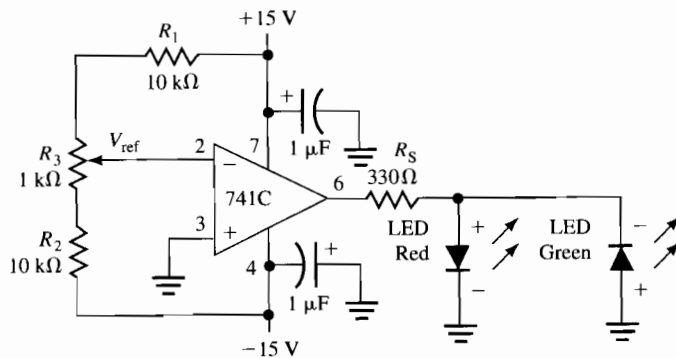

Figure 46–2
- In this step, you will test the effects of the comparator on a sine wave input and add an integrating circuit to the output of the comparator. Connect the circuit shown in Figure 46–3 and add a sine wave generator to the comparator as illustrated. Set the output for a 1.0 V_{pp} at 1 kHz with no dc offset. Observe the waveforms from the comparator (point A) and from the integrator (point B). Adjust R_3 so that the waveform at B is centered about zero volts. Sketch the observed waveforms in the correct time relationship on Plot 46–1. Show the voltages and time on your plot.